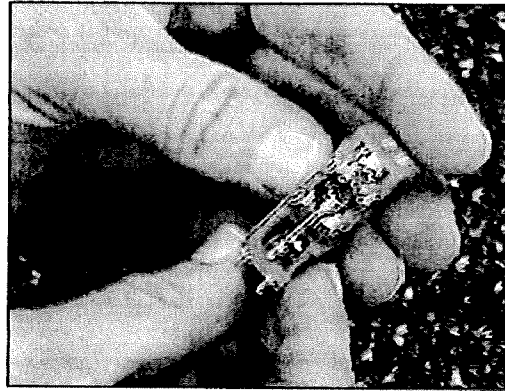

Figure 5.4
- Remove the blown fuse from the fuse holder and replace it with a new fuse (**Figure 5.4**).